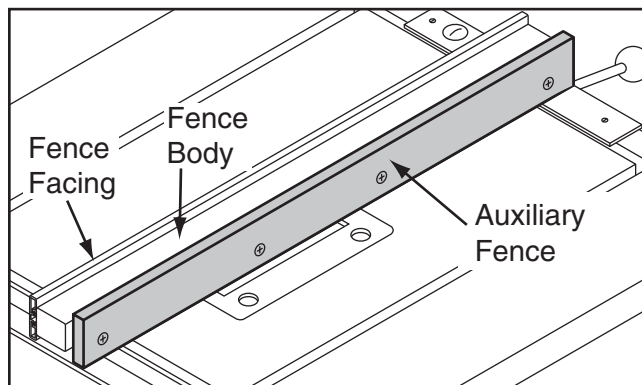

Figure 73. Auxiliary fence.
6. Thread the flat head screws through the auxiliary fence and into the hex nuts and flat washers inside the standard fence body, and tighten securely, as shown in **Figure 73**.